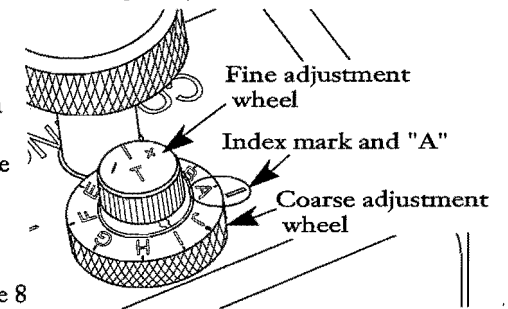

Figure 8
5.5 Turn both the top and bottom FINE adjustment knobs counter-clockwise to their lowest setting, the "minus" signs (Figure 8).